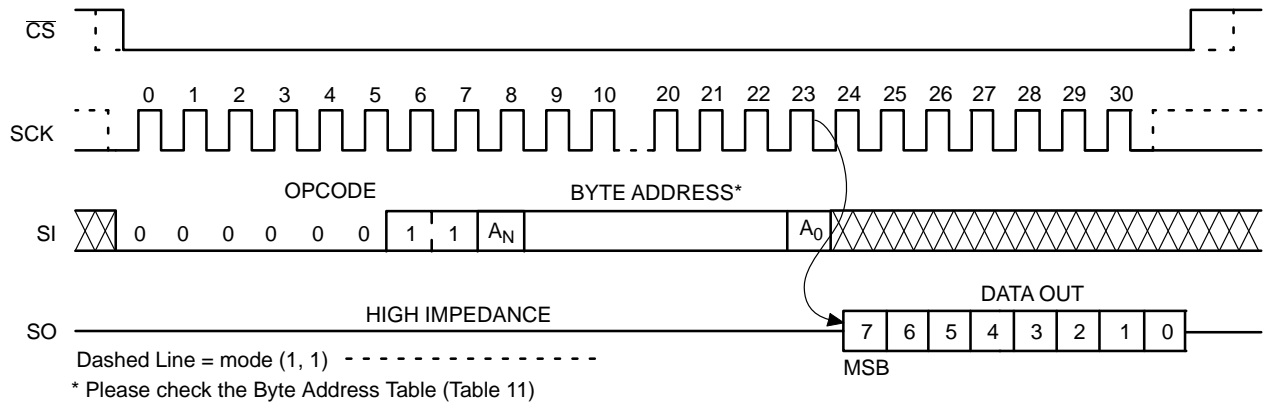

Figure 9. READ Timing
After receiving the last address bit, the CAT25512 will respond by shifting out data on the SO pin (as shown in Figure 9). Sequentially stored data can be read out by simply continuing to run the clock. The internal address pointer is automatically incremented to the next higher address as data is shifted out. After reaching the highest memory address, the address counter “rolls over” to the lowest memory address, and the read cycle can be continued indefinitely. The read operation is terminated by taking  $\overline{\text{CS}}$  high.
Reading the additional 128-byte Identification Page (IP) is achieved using the same Read command sequence as used for Read from main memory array (Figure 9). **The IPL bit from the Status Register must be set (IPL = 1) before attempting to read from the IP.** The [A6:A0] are the address significant bits that point to the data byte shifted out on the